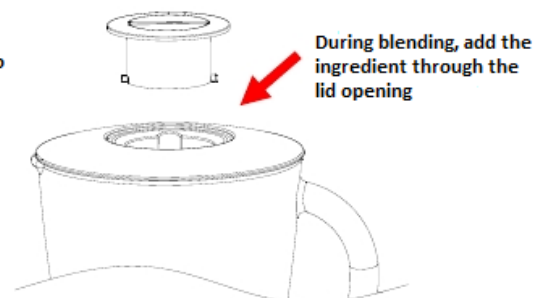

Fig. 8
7. If you want to add ingredients while the blender is working, remove the measuring cup and place through the lid opening. (See Fig.8)